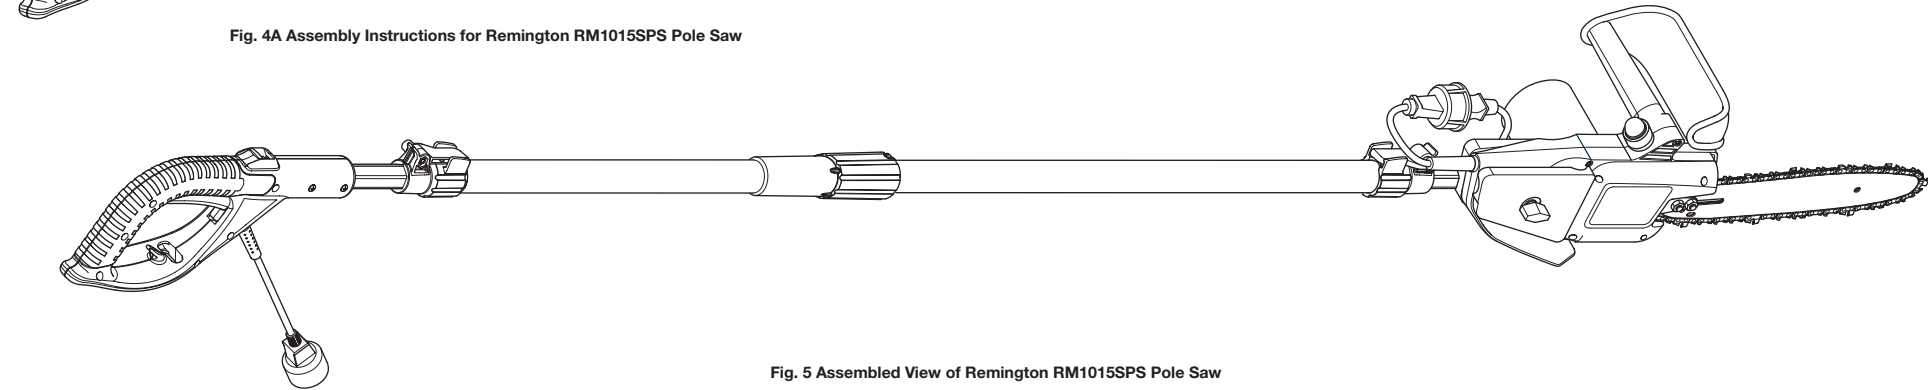

Fig. 5 Assembled View of Remington RM1015SPS Pole Saw
10. Insert Chain Saw Power Cord into the Pole Receptacle as shown. (Fig. 5)